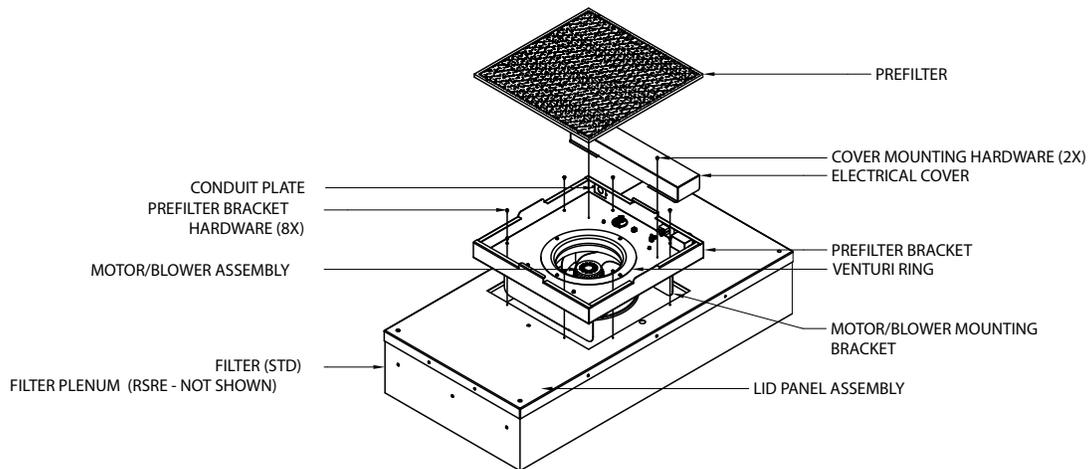

Figure 6: Standard/RSR Motor Replacement
Step 4. Loosen the electrical cover screws (two), and slide/lift off cover. (See Figure 6.)
Step 7. Remove the eight screws to free the motor/blower assembly from the lid assembly. If using power drivers, set the unit to a low torque setting to avoid stripping the sheet metal screws (See Figure 6.)